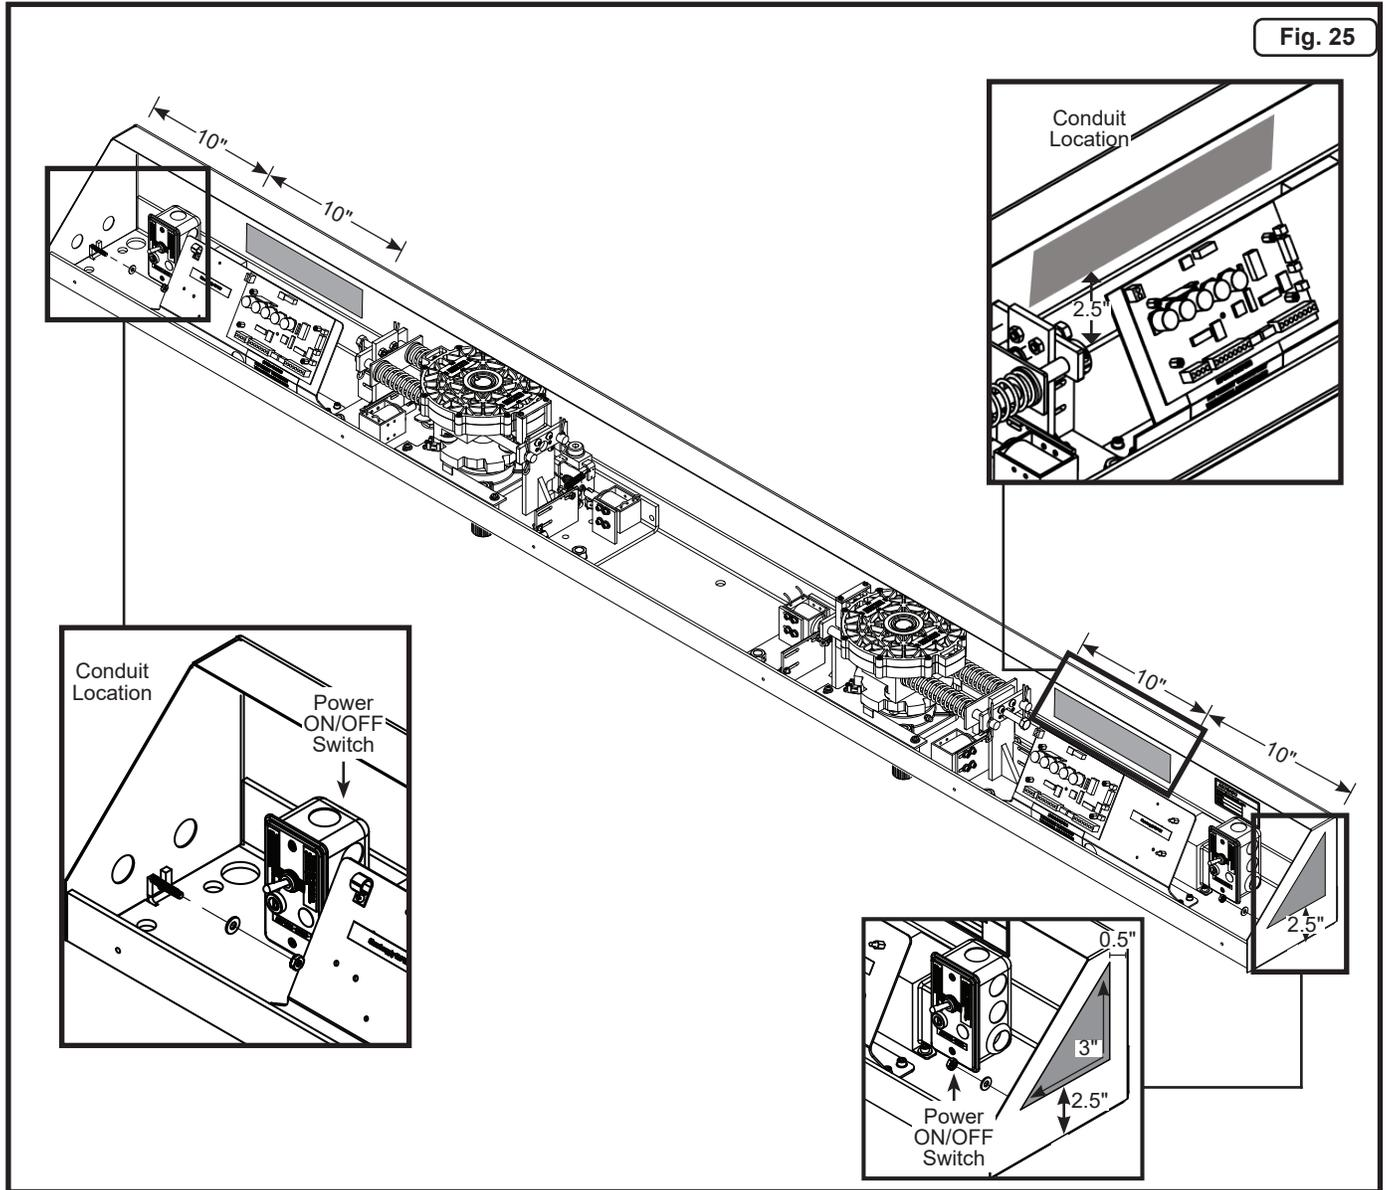

Fig. 25
The installer can run power primary conduit to any of the locations shown in (Figure 25). Separate conduit can be run to each side of the Top Channel lid, or conduit can be run to one side of the Top Channel lid and with connecting conduit between the two junction boxes. In either case, conduit must be run all the way to each junction box.
1. Make sure the power switch is in the OFF position. If it is not, move the toggle switch to the OFF position (Figure 25).